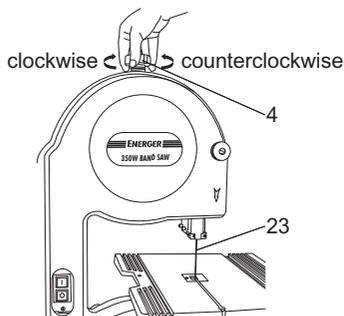

Fig. 11
- > Turn the blade tension knob (4) for tightening the saw blade (23) in a clockwise direction. (Fig. 11)